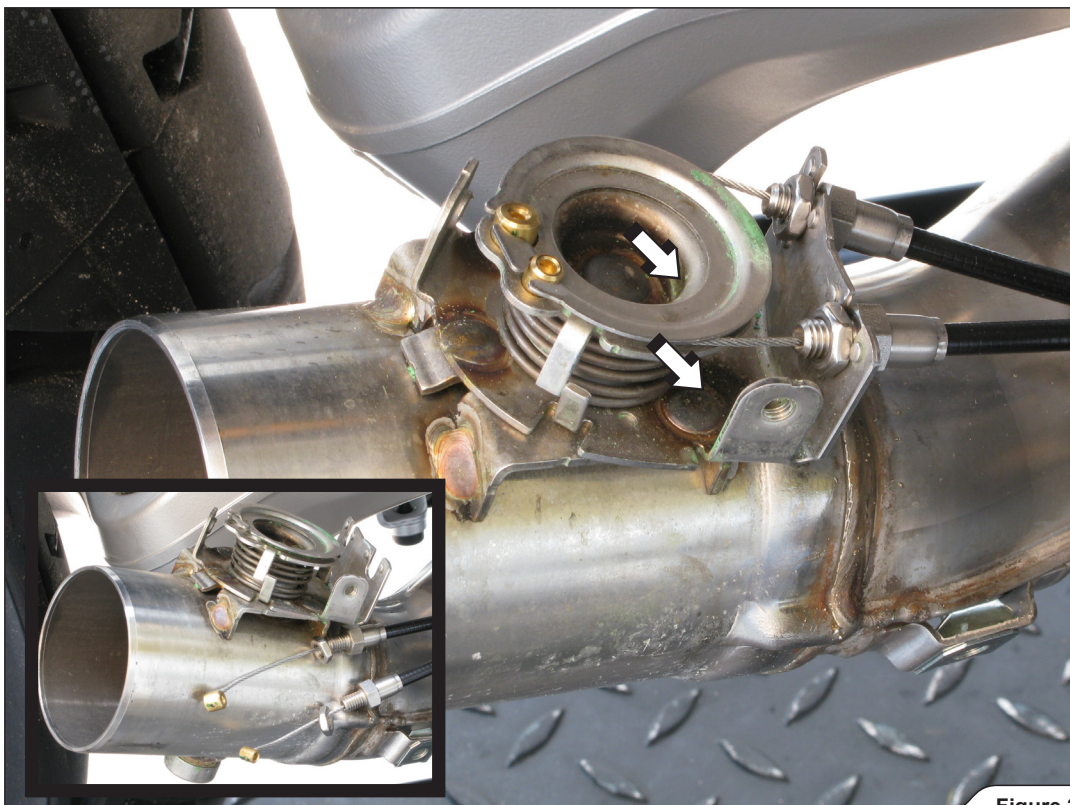

Figure 2
3. Unscrew the marked cable nuts and remove the cables off the valve (**Figure 2**).